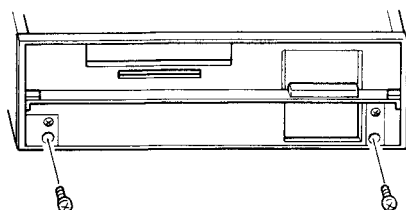

Fig. 5
1. Remove the two screws. (Fig. 5)